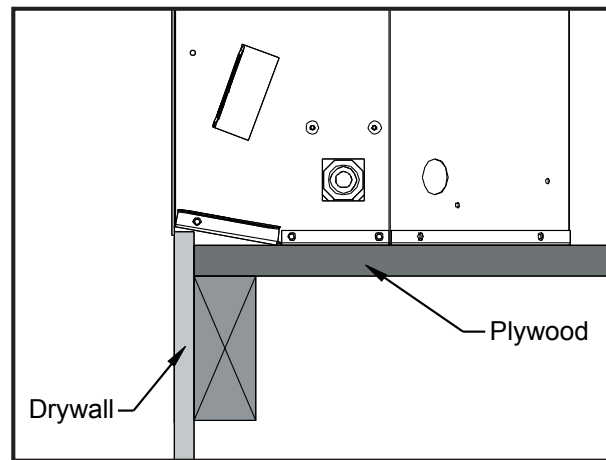

Figure 22. Drywall Facing Only Around The Haven.
Any of the four (4) different haven faces will allow for up to a 1" (25mm) thick finishing wall (example drywall and tile); see Figure 22 & 23. The wall may be finished up to the fireplace standoffs with combustible materials. This facing style should tuck under the at the bottom of the front to conceal the top of the facing and the bottom of the Haven.